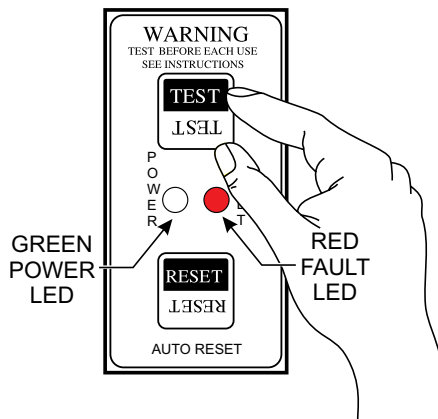

Figure 53. GFCI Sensing Module (Red/Fault LED ON)
6. Next, press the **TEST** button on the GFCI sensing module (Figure 53) and verify that the **GREEN** power LED turns **OFF** and the **RED** fault LED turns **ON**.